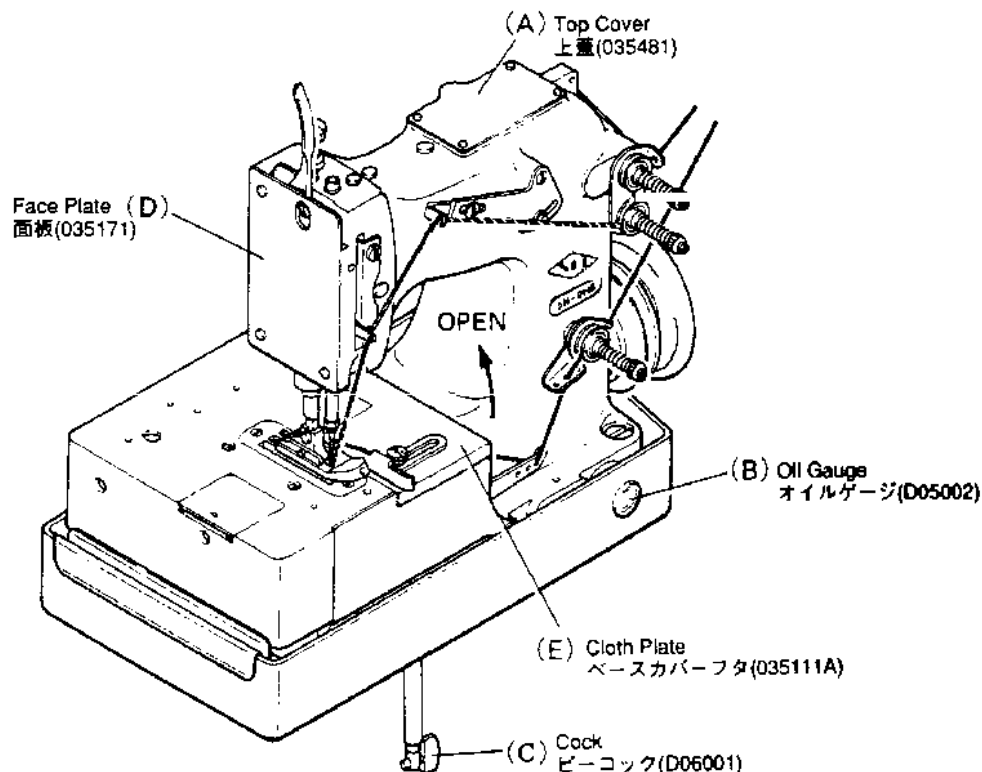

Fig.1
- Remove Top Cover (A). of Fig.1, and fill oil to "H" line of Oil Gauge (B). Use mineral oil of 22 to 32 cst kinetic viscosity at 40°C.
- To drain oil, open Cock (C). of Fig.1 Replace oil once every 2,000 hours of operation.
- a) Needle Bar Bushing, upper and lower (after removing upper Face Plate (D)).
- b) Feed Lift Eccentric Ass'y (after opening Cloth Plate (E)).
給油は次の通りに行ってください。(Fig.1)